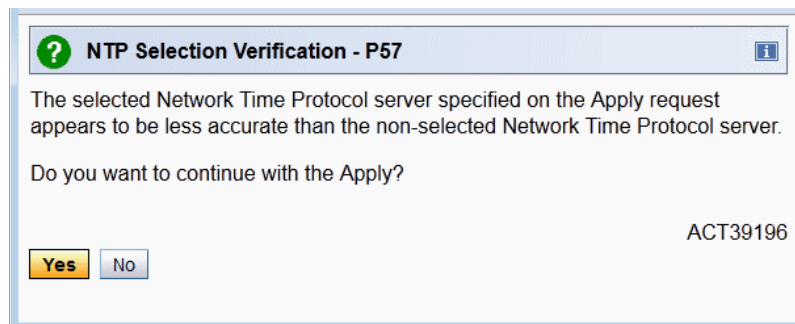
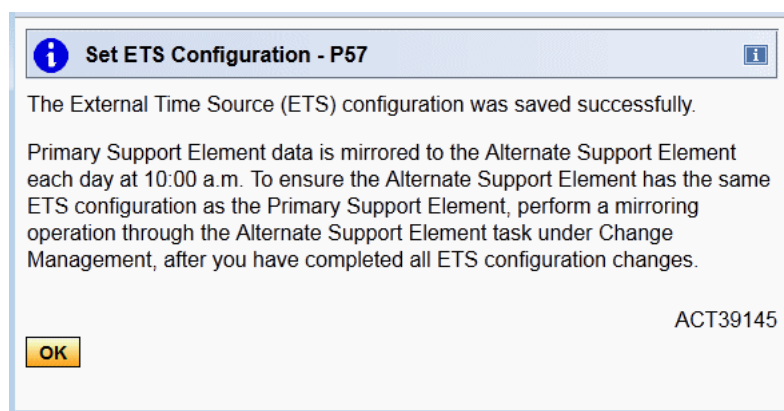

Figure 1-50 Message ACT39196 - The selected NTP server is less accurate
Figure 1-51 Message ACT39145 - ETS configuration saved successfully
12. If two NTP servers are configured, clicking **Apply** causes a verification of the NTP server first. This helps you choose the best NTP server as the selected one. Depending on the result, message ACT39196 might display (Figure 1-50).
13. If the selected NTP server is less accurate than the nonselected NTP server, message ACT39196 displays (Figure 1-50). In this case, consider assigning the nonselected NTP server as the selected one.
14. There might be good reasons for such a configuration. However, clicking **Yes** (Figure 1-50) saves the NTP server configuration on the Support Element, and the configuration takes effect. Message ACT39145 displays (Figure 1-51).